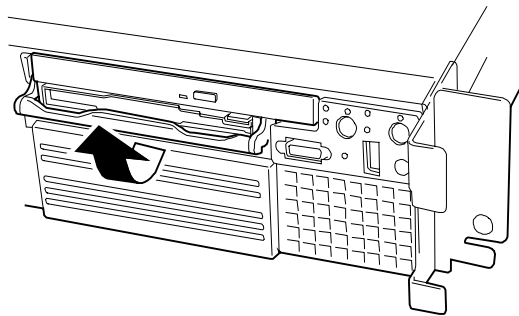

Figure 4-57. Lifting the Carrier Handle
3. Lift up the carrier handle at the bottom of the floppy disk drive. See Figure 4-57.